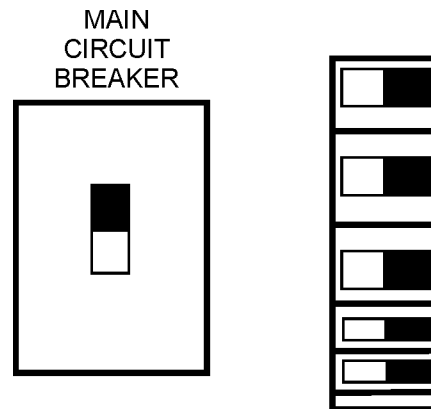

Figure 50. Main, Aux. and GFCI Circuit Breakers (ON)
17. Place the **main**, **GFCI**, and **aux.** circuit breakers in the "ON" position (Figure 50).